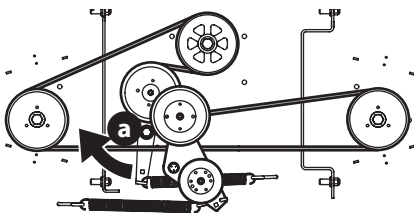

Figure 61
5. Using a 1/2" drive insert the end into the 1/2" square opening in the deck idler assembly (a) and rotate the deck idler assembly (a) clockwise (Figure 61). While holding the deck idler assembly (a), loosen the deck belt from the pulley and slide the belt away from the pulley.
6. Route the new belt (Figure 61). Then reinstall the deck and PTO belt.